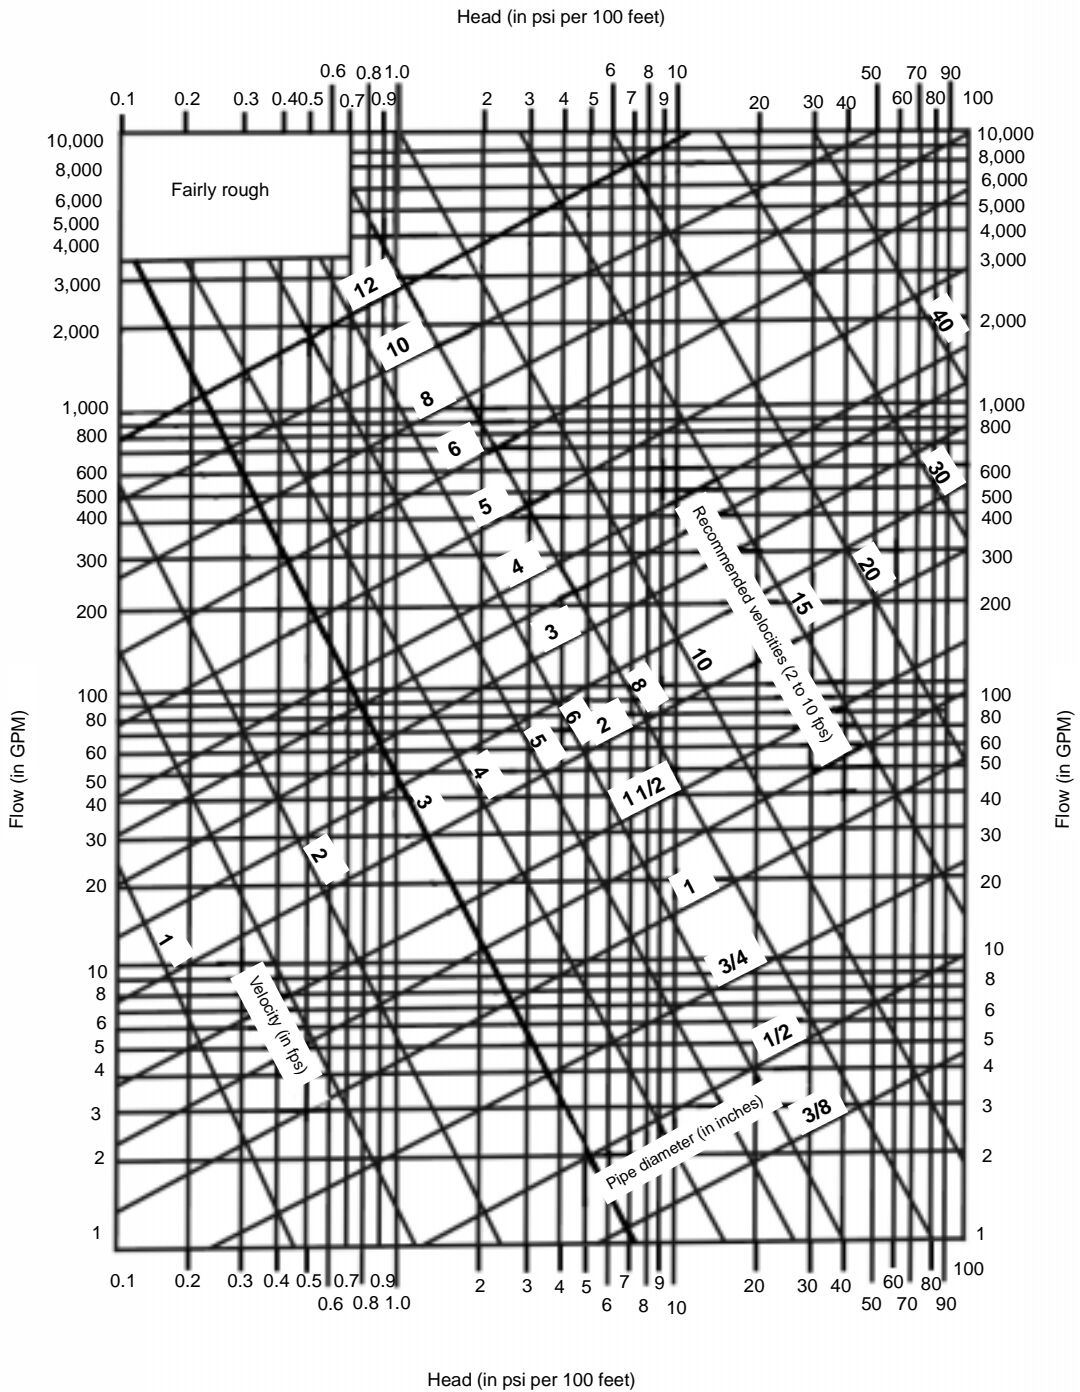

Figure D-3. Friction Loss, Fairly Rough Pipe
Step 5. Select a 6-inch diameter pipe and a velocity of 2.6 fps (intersection of selected pipe and Q). See *Figure D-3, page D-9*.